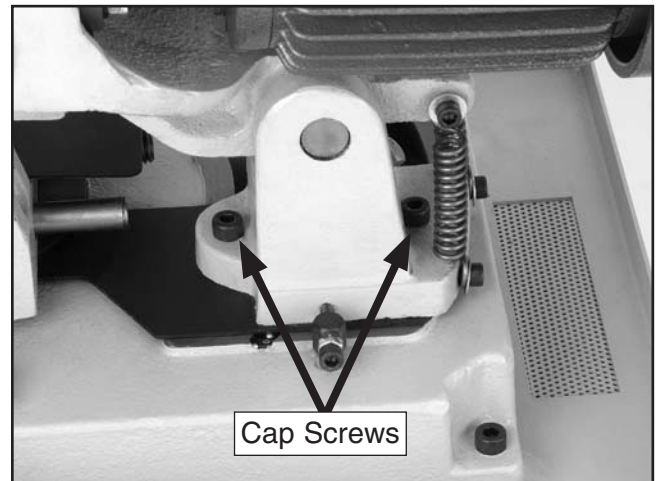

Figure 11. Miter lock lever.
2. Loosen the two cap screws that lock the saw in position (**Figure 11**).